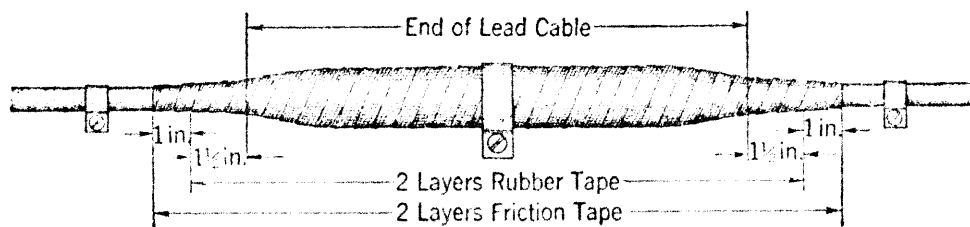

Fig. 6.
3.15 Tape completed splice with two layers of rubber tape 1-1/2 inches beyond ends of sheath and two layers of friction tape 2-1/2 inches beyond end of sheath. (If ivory inside wiring cable is spliced, use ivory friction tape.) To prevent damage through bending, support splice at its center and at ends of sheath as shown in Fig. 6.